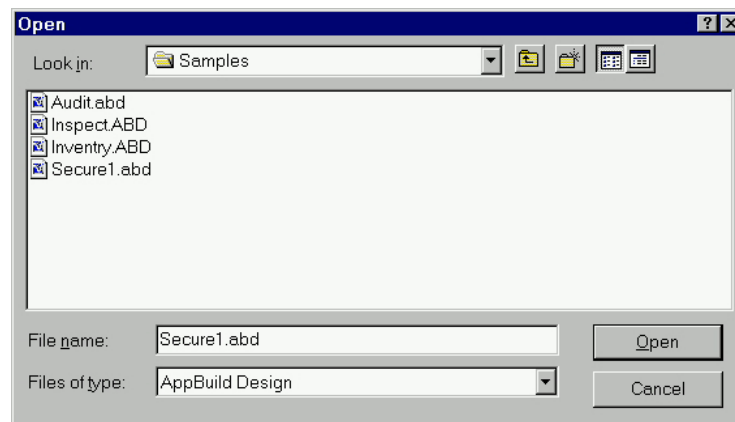

Figure 1-7 Open Secure1.abd
7. Open the **Secure1.abd** document located in the **Samples** folder (Figure 1-7).